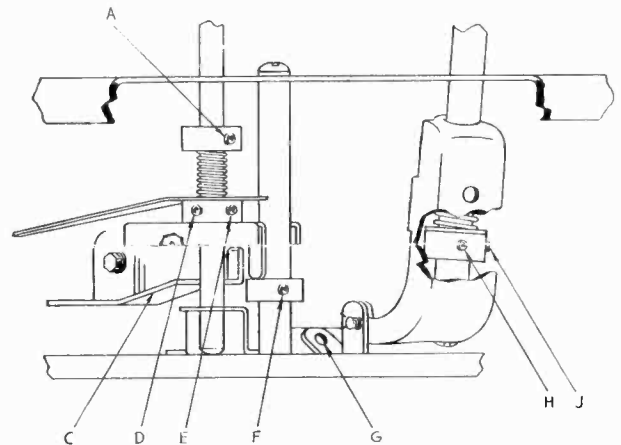

Fig. 5
Should it become necessary to clean the clutch, loosen the set screw (point "A", Fig. 5) to relieve the spring tension and clean the clutch parts with carbon tetrachloride. Reset the clutch spring tension by locking the collar at least $\frac{1}{4}$ inch below the Main Plate. This tension should be just sufficient to operate the trip mechanism without placing undue drag on the movement of the Pick-up Arm.
FOR PICK-UP ARM OR NEEDLE STRIKING EDGE OF RECORD: Needle should approach the top record of a full stack on the Turntable with approximately $\frac{1}{8}$ inch clearance. Check for binding of the Pick-up Arm Raising Lever at its pivot. If the condition is not due to binding, adjust by bending the Pick-up Arm Raising Lever at Point C, Fig. 5. Do not attempt to move Pick-up Arm Raising Disc (27, Fig. 3) up or down.
3. With a #8 Bristol wrench in each of the set screws (Points D and E, Fig. 5) alternately loosen one and tighten the other until the needle rests above the record lead-in groove at the desired point.
FOR PICK-UP ARM DROPPING OFF REST POST: When the Pick-up Arm is placed on the Rest Post, the lip of the Pick-up Arm Raising Disc (27, Fig. 3) rests in the groove of the Collar (24, Fig. 3). Adjust the position of the Collar (Point F, Fig. 5) so that the lip of the Pick-up Arm Raising Disc rests in the groove of the Collar with the Pick-up Arm Pivot (22, Fig. 3) touching the Sub Plate. When properly adjusted, there should be 0.010 inches clearance between the lip of the Pick-up Arm Raising Disc and the bottom of the collar groove. This should also be checked by moving the Pick-up Arm back and forth manually to see that the lip approaches the Collar at about the middle of the chamfer.
- c. With a #8 Bristol wrench in each of the set screws (points H and J, Fig. 5) alternately loosen one and tighten the other until the angle of the Record Support Arm is correct. Be sure that both set screws are tight at the completion of this adjustment.